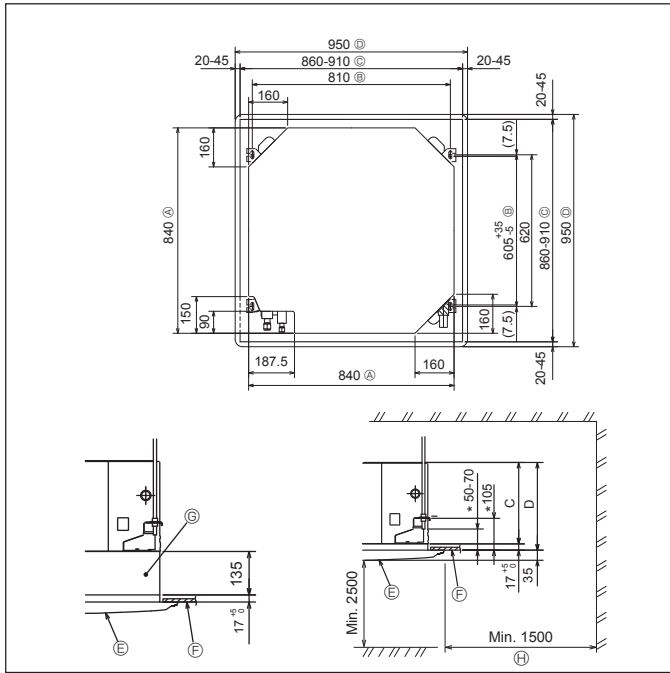

Fig. 2-2
2.2. Ceiling openings and suspension bolt installation locations (Fig. 2-2)
- The dimensions of ceiling opening can be regulated within the range shown in Fig. 2-2; so center the main unit against the opening of ceiling, ensuring that the respective opposite sides on all sides of the clearance between them becomes identical.
- (A) Outer side of main unit
- (B) Bolt pitch
- (C) Ceiling opening
- (D) Outer side of Grille
- (E) Grille
- (F) Ceiling
- (G) Multi function casement (option)